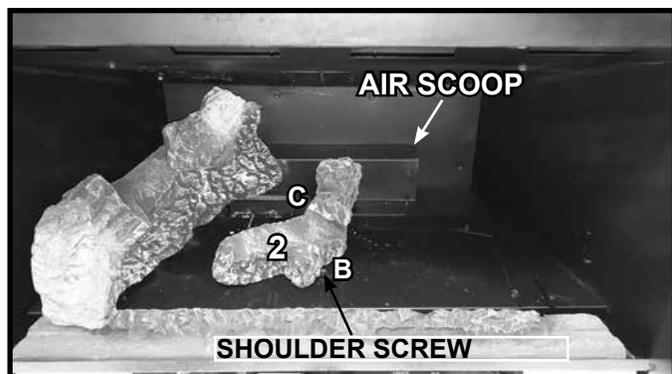

Figure 4 Log #2 Installed
**LOG #2:** Set Log #2 on the burner between pins B and C. Rotate the log counter clockwise until it contacts both pins B and C and slide it back until it contacts the Air Scoop. Ensure Log #2 is not covering any ports. See Figure 4.